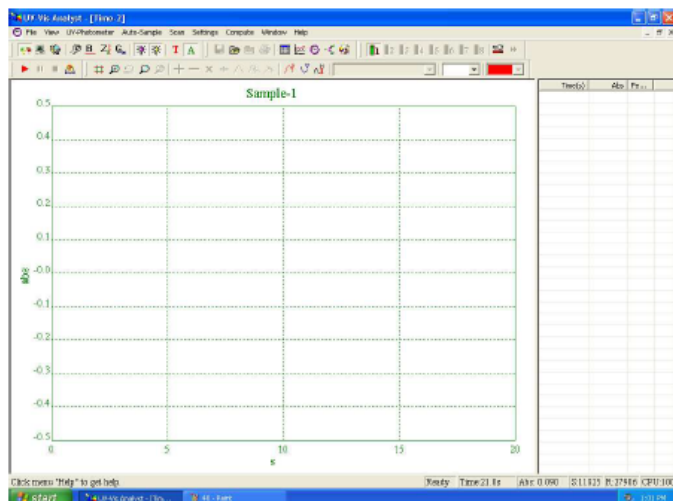

Fig. 4-38
1. click  on the toolbar, the following dialog box will appear (fig 4-38).